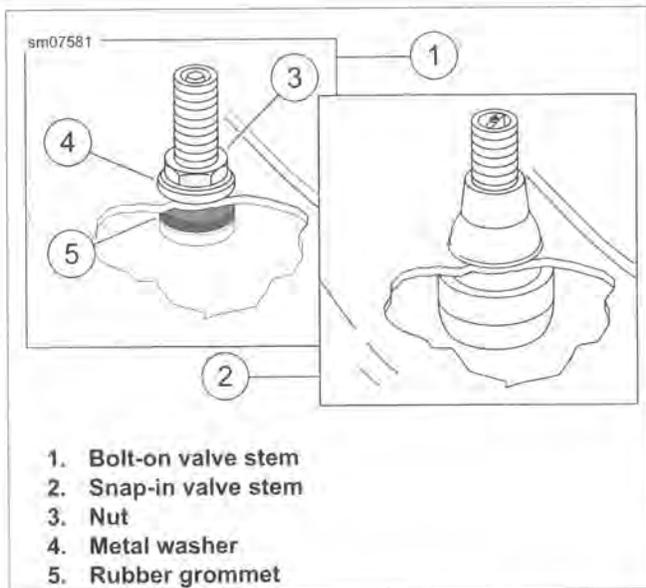

Figure 2-39. Tubeless Tire Valve Stems
1. See Figure 2-39. Install rubber grommet (5) on valve stem.
3. Install metal washer (4) and nut (3).